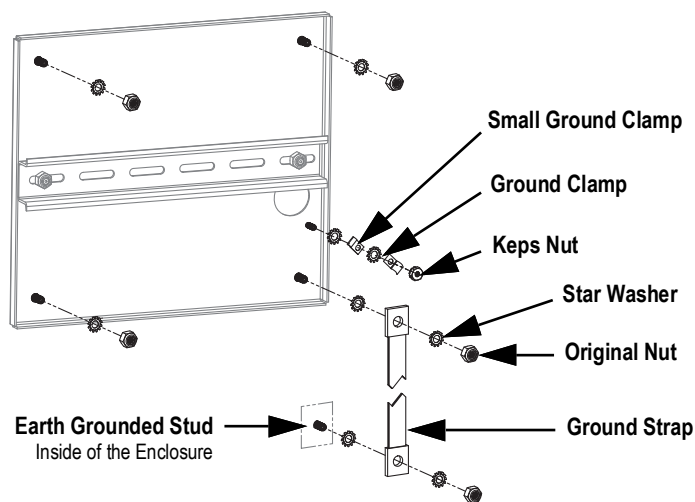

Figure 2-29. Backplate Shield Grounding
3. Secure the other end of the ground strap to an earth grounded stud inside of the enclosure with star washers on either side of the ground strap, see Figure 2-29. Make sure there is an appropriate amount of slack in the grounding strap for opening and closing the enclosure door.
NOTE: Ensure the small ground clamp is installed first then install the ground clamp, see Figure 2-29 on page 37.